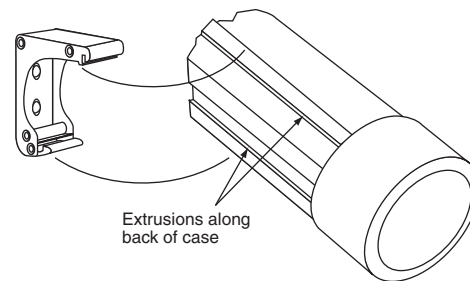
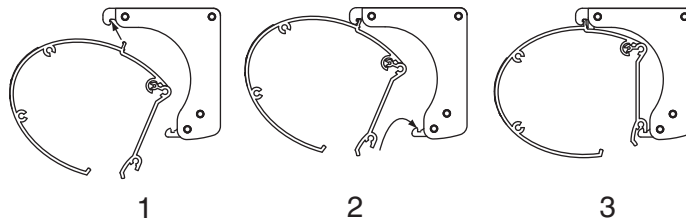

Figure 2
Figure 3
- ② Attach the screen by snapping the extrusions on the back of the case onto the brackets. With the lower edge of the screen case tilted away from the wall, engage the rib on top of the case with the slot on each bracket. Slide the screen case along the brackets to adjust the screen location from left to right if necessary (see Fig. 2). Once the case is in position, pivot the case back toward the brackets until the lower edge of the case "snaps" into place with the spring-loaded latch (see Fig. 3).